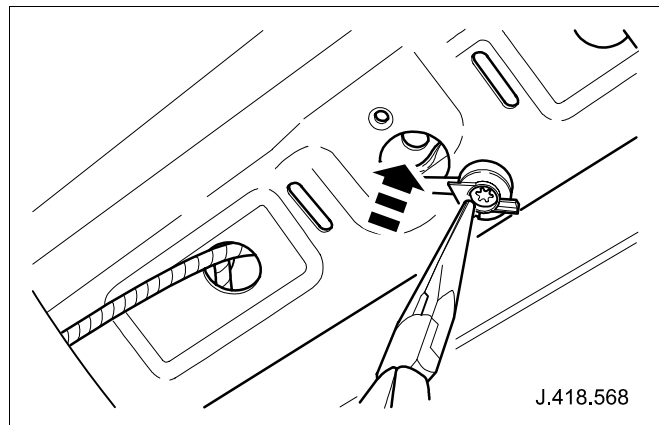

Fig. 16
- 46 Align and fully seat base connector into roof panel 10mm diameter drilled hole. (See Fig. 16)